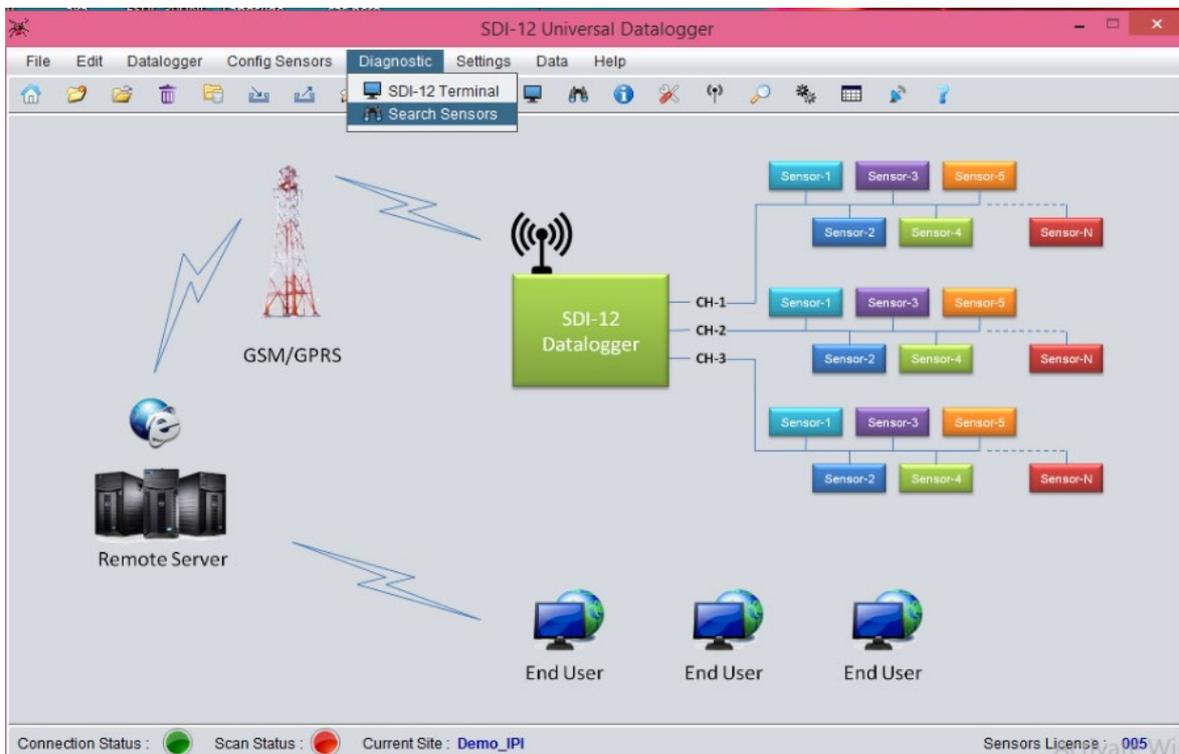

Figure 7-12 Diagnostic menu of EDSL-30UNI Configuration Manger Software
- Click “Diagnostic” followed by “Search Sensors” to search the sensors connected with the Datalogger as shown in figure 7-12 below.